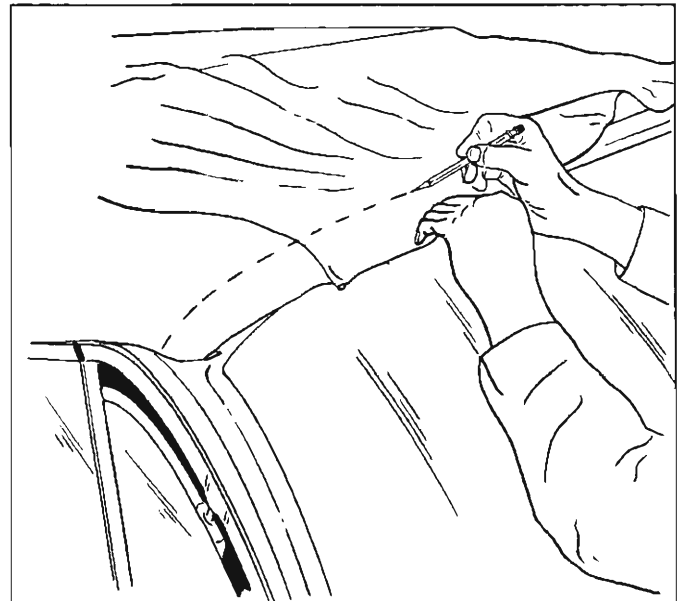

Fig. 75—Marking Top Material at Front Roof Rail
49. At front roof rail, pull top trim material forward to desired tension. While maintaining tension on top trim, place a pencil mark on outer surface of trim material along forward edge of front roof rail (fig. 75).